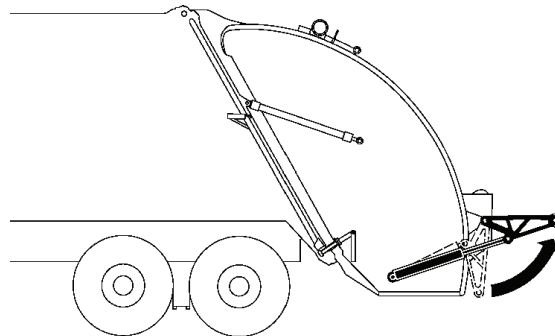

Figure 29
2. To empty the container, PULL and HOLD the tipper lever out to slowly raise the container into the dump position. Release the control lever when the container reaches the dump position (Figure 29).